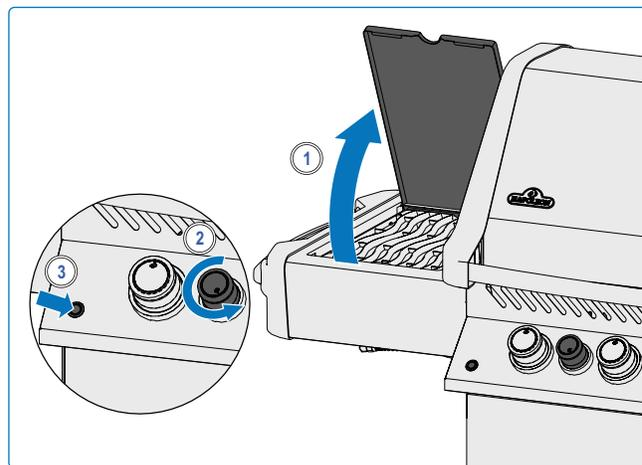

Fig. 11
4. If the burner will not ignite – turn burner control knob clockwise to the OFF position. Wait 5 minutes. Repeat step 2 and 3. (see Fig. 11).